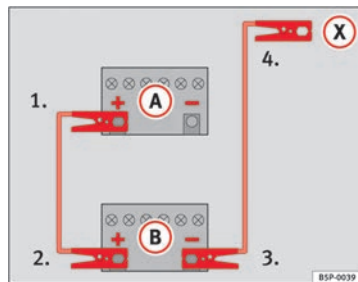
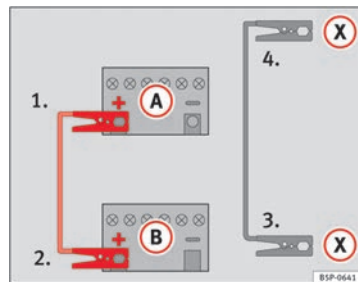

Fig. 229 Diagram of connections for vehicles without Start-Stop system
Fig. 230 Diagram of connections for vehicles with Start-Stop system
- Connect one end of the *red* jump lead to the positive (+) terminal of the vehicle with the flat battery (A) ⇒ Fig. 229.
- Connect the other end of the *red* jump lead to the positive terminal (+) in the vehicle providing assistance (B).
- Connect one end of the *black* jump lead to the negative terminal (-) of the vehicle providing assistance (B) ⇒ Fig. 229.
- Connect the other end of the *black* jump lead (X) to a solid metal component bolted to the engine block or to the engine block itself of the vehicle with the flat battery. However, connect it to a point as far as possible from the battery (A).
- Connect one end of the *red* jump lead to the positive (+) terminal of the vehicle with the flat battery (A) ⇒ Fig. 230.
- Connect one end of the *black* jump lead (X) to a suitable ground terminal, a solid piece of metal in the engine block, or to the engine block ⇒ Fig. 230.